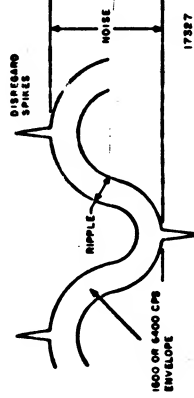

Figure 1. Typical Ripple and Noise Pattern
32. Measure peak-to-peak ripple voltage on oscilloscope, as shown in figure 1, and record.
33. Measure peak-to-peak noise on oscilloscope, as shown in figure 1, and record.
9. Measure peak-to-peak ripple voltage on oscilloscope, as shown in figure 1, and record.
10. Measure peak-to-peak noise on oscilloscope, as shown in figure 1, and record.
52. Measure peak-to-peak ripple voltage on oscilloscope, as shown in figure 1, and record.
53. Measure peak-to-peak noise on oscilloscope, as shown in figure 1, and record.
- Measure peak-to-peak ripple voltage on oscilloscope, as shown in figure 1, and record.
- Figure 1. Typical Ripple and Noise Pattern
- Measure peak-to-peak noise on oscilloscope, as shown in figure 1, and record.